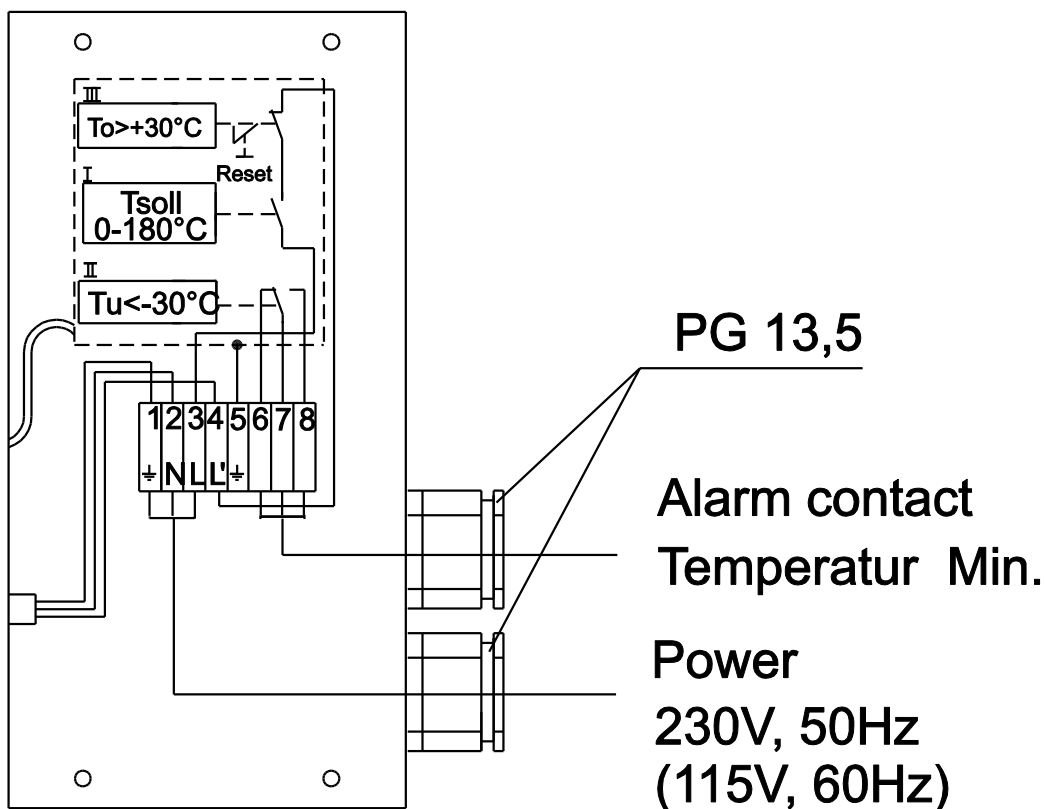

Figure 3 Electrical connection
- Insert the mains cable (min. 3 x 1.5 mm²) through the cable gland and connect to the appropriate terminals (Fig.3).